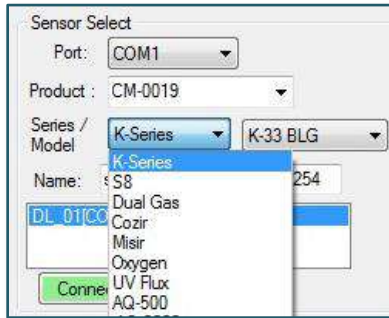

Figure 12: Series dropdown menu
- **Series** – if you selected a part number on the **Product** field above, then the proper sensor series is populated automatically. Alternatively, you can select the sensor series from this dropdown menu, as shown in *Figure 12* below.